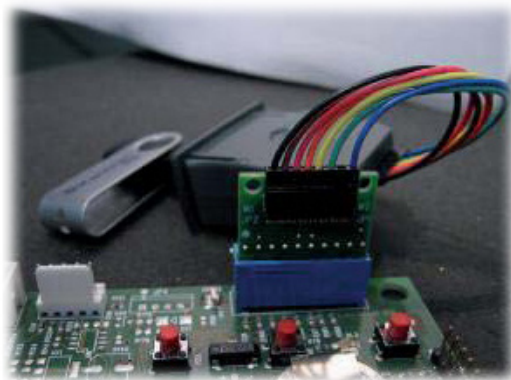

Fig. 103
- Insert the interface circuit into the blue connector of the CPU board (JP2) (Fig. 103);
- Press and hold the P1 button (Fig. 103) on the CPU;